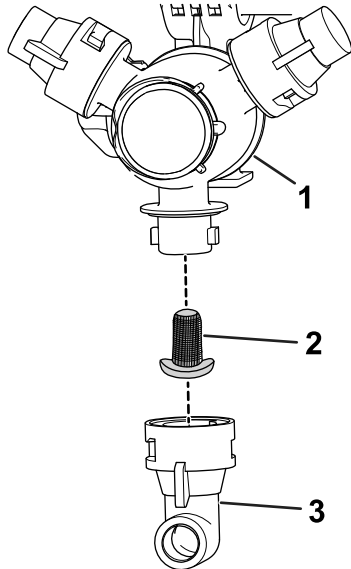

Figure 30
2. Remove the nozzle from the spray turret (Figure 30).
3. Remove the nozzle filter (Figure 30).
5. Install the nozzle filter (Figure 30).
6. Install the nozzle onto the spray turret (Figure 30).